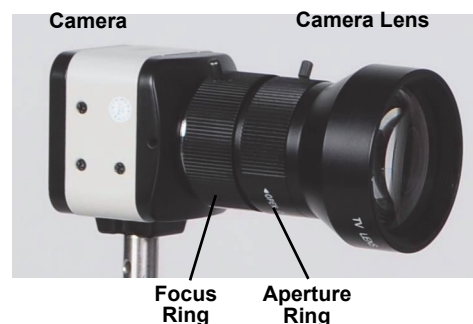

Figure 12: Camera/Lens Assembly
- Look through the interferometer at the mercury lamp. You should see a green “bull’s-eye” that is centered in the interferometer circle (see Figure 12).